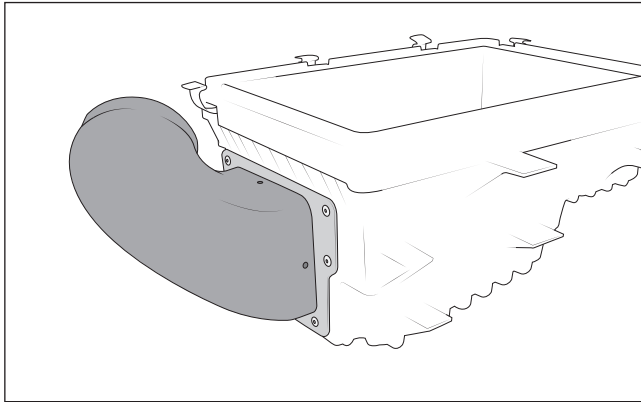

Figure 16
6. Rivet the air inlet elbow to the air inlet flange with 4 supplied rivets (Fig. 16).